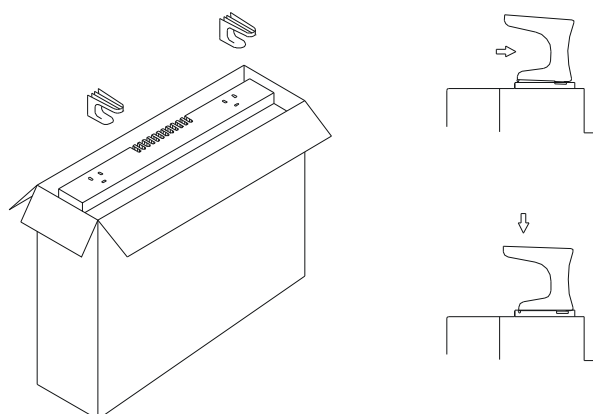

Fig.1
2.- Open the carton at the indicated side and fix the feet (fig 1) without removing the heater casing). The screws are in the accessories bag. Turn the carton upside down to allow the heater to stand on its feet and remove the carton. Check that it is the correct model and that it is in good condition.